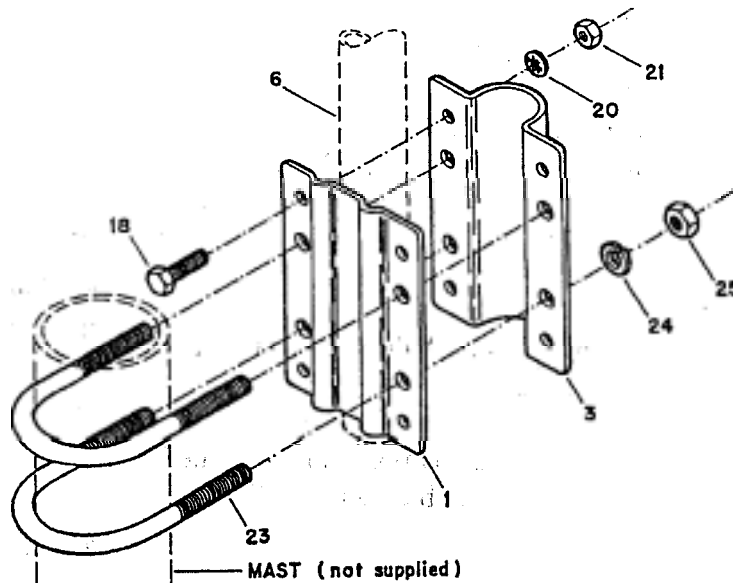

Figure 2 Mast-to-Mast Clamp
Select the mast-to-mast clamp, plate, and associated hardware and loosely assemble them as shown in Figure 2.
Slide the assembled mast-to-mast clamp over the bottom end of the 28" tube as shown in Figure 2 and securely tighten the four (4) 1/4"-20 x 3/4" bolts, nuts and lockwashers (Item No.s 18, 20, & 21).